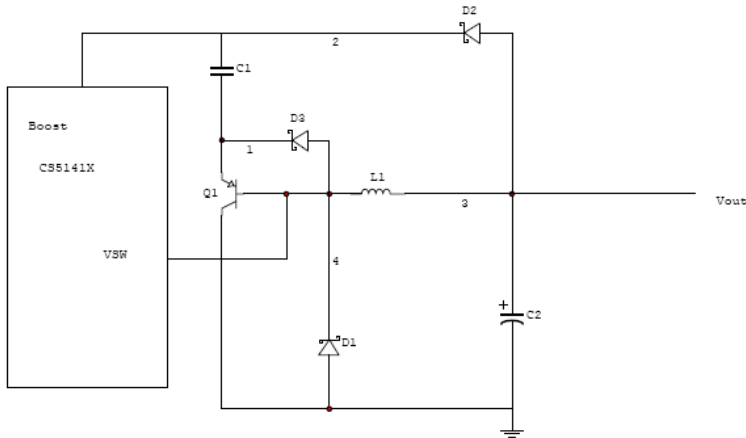

Figure 11 Current Boost Circuit
4. Use an additional transistor to increase the boost capacitor charging current. This can be accomplished with a couple of extra components (Q1 and D3) as shown in figure 11.